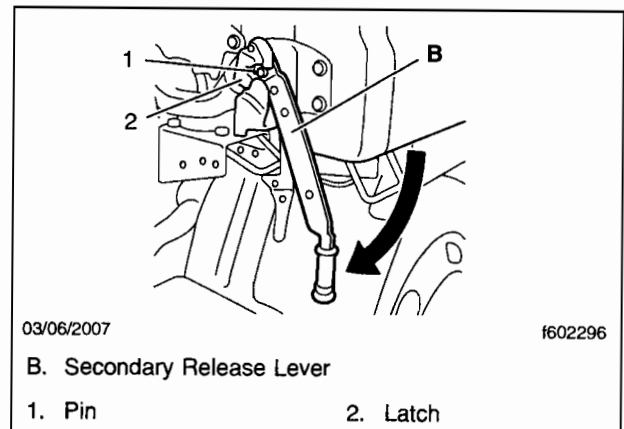

Fig. 8, Engaging the Latch
- 3.4 Lower the secondary release (lever B) until the pin engages with the latch. Make sure that lever B is locked in place and cannot be lifted. See **Fig. 8**.